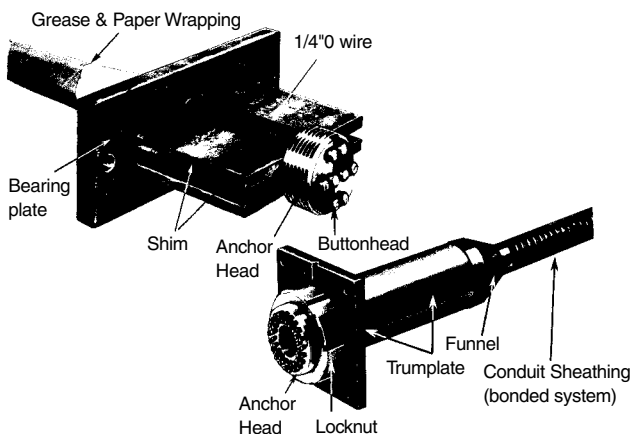

Figure 1.16: Wire Tendon Systems
- 3) **Wire Systems** (Figure 1.16)